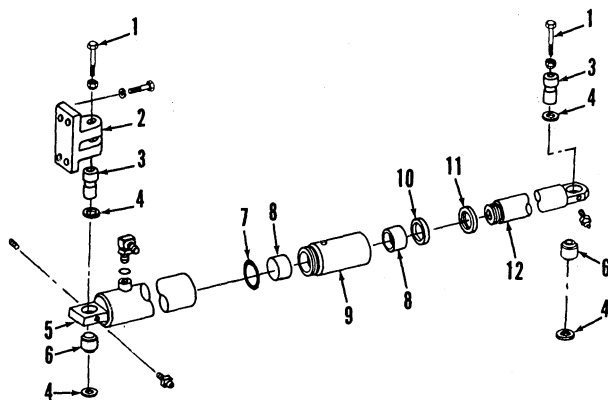

Fig. 41—Exploded view of steering assist cylinder used on some tractors equipped with mechanical front-wheel drive.
30. R&R AND OVERHAUL. To remove cylinders, first turn steering wheel several turns in both directions to relieve hydraulic pressure. Disconnect hydraulic lines from cylinders. Remove cap screws and retainers from pivot pins (3—Fig. 41). Thread a longer cap screw into end of pivot pins, then pull pins out of cylinder ends and remove cylinder.